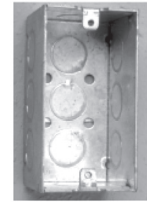

Fig.2
- A single gang G.P.I. box as in Figure 2,